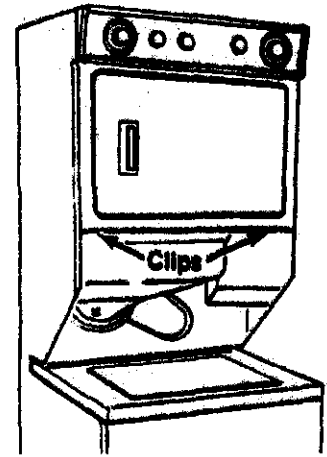

Fig. 20
1. Remove the Transition Panel by removing the three (3) retaining screws.
2. Using a putty knife, release the two (2) retaining clips and remove the toe panel. (Fig. 20)